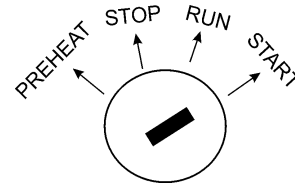

Figure 19. Starter Switch (Start)
8. Once the preheat indicator lights, turn the key to 'START' (Figure 19). After the engine cranks, release the key to 'RUN'.